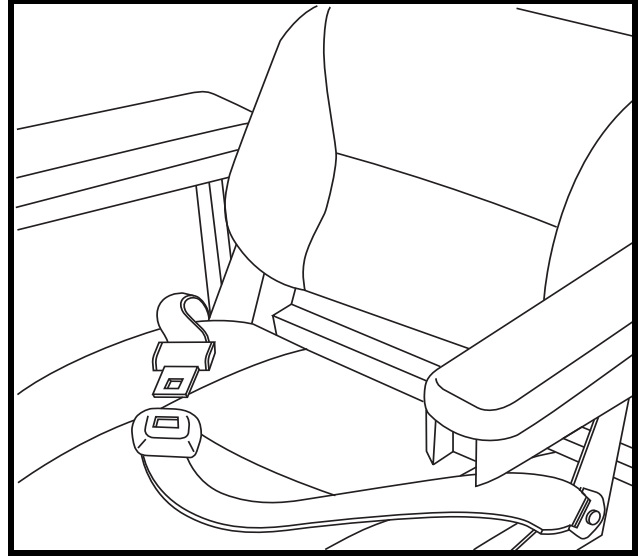

Figure 19. Positioning Belt
2. Place the seat upside down so that you can see the bottom of the seat base. **See figure 19.**
1. Insert the metal tab on the right side of the belt into the plastic housing on the opposite strap until you hear a “click.” **See figure 19.**